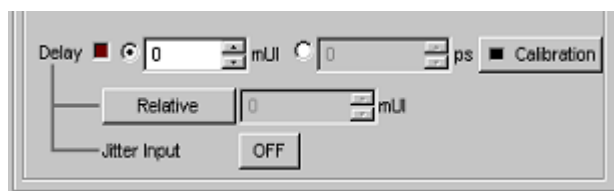

Figure 5.1.5-1 Output tab window for setting delay
- When inputting jitter-modulated clocks, set Jitter Input of Delay to ON. (Refer to Figure 5.1.5-1.) When using the MU181000A/B (with Option 001 Jitter Modulation), set Jitter Input of Delay to ON, and then set Jitter Modulation of the MU181000A/B to ON.